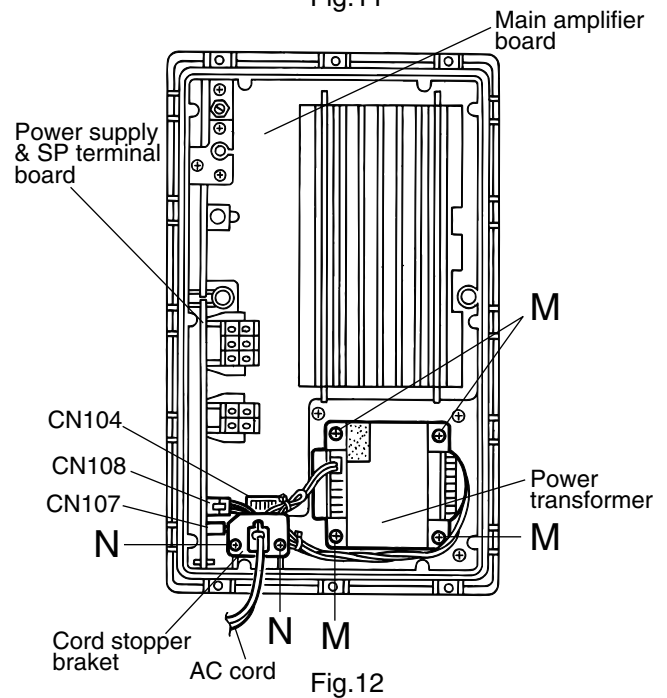

Fig.12
**(See Figs.12 and 13)**
• Prior to performing the following procedure, remove the heat sink cover, the amplifier assembly, the amplifier cover, the preamplifier board, the power supply & SP terminal board, the main amplifier board, the power amplifier board (A) and power amplifier board (B).
**(See Fig.12)**
• Prior to performing the following procedure, remove the heat sink cover, the amplifier assembly, the amplifier cover, the preamplifier board, the power supply & SP terminal board, the main amplifier board, the power amplifier board (A), the power amplifier board (B) and power transformer.